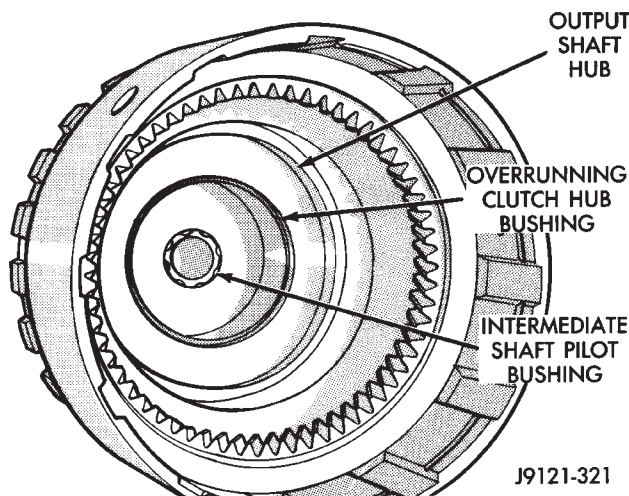

Fig. 210 Output Shaft Pilot Bushing
(1) Soak direct clutch and overdrive clutch discs in Mopar® ATF Plus 3, type 7176, transmission fluid. Allow discs to soak for 10-20 minutes.
(2) Install new pilot bushing and clutch hub bushing in output shaft if necessary (Fig. 210). Lubricate bushings with petroleum jelly, or transmission fluid.